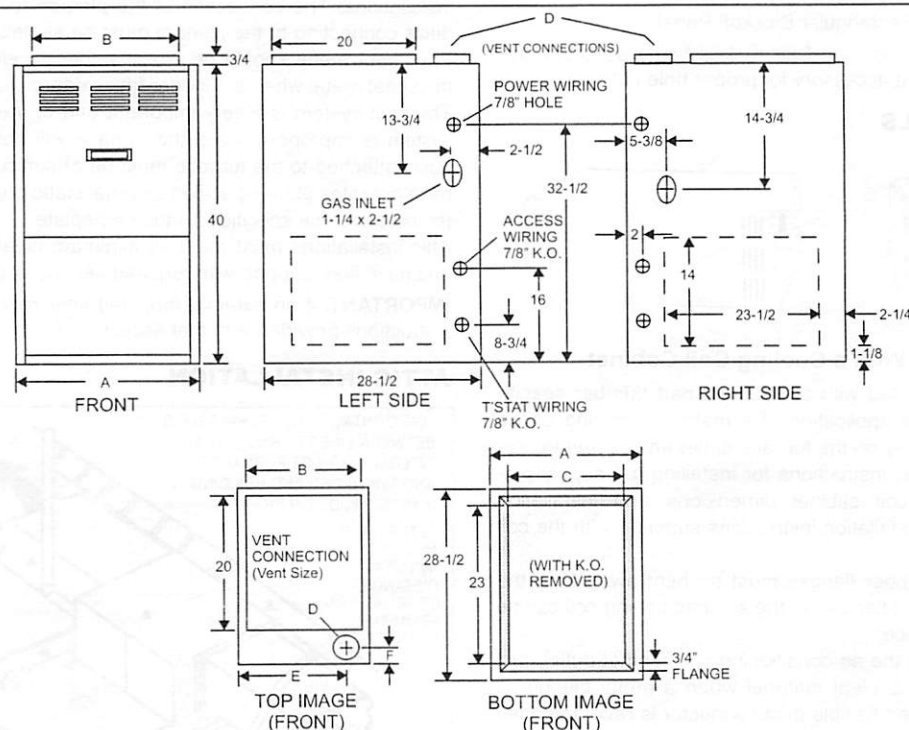

FIGURE 1: Dimensions
5. Be sure to seal the furnace to plenum connections to prevent air leakage. Refer to Figure 1 for unit and plenum dimensions.
**IMPORTANT:** Some accessories such as electronic air cleaners and pleated media may require a larger side opening. Follow the instructions supplied with that accessory for side opening requirements. Do not cut the opening larger than the dimensions shown in Figure 1.